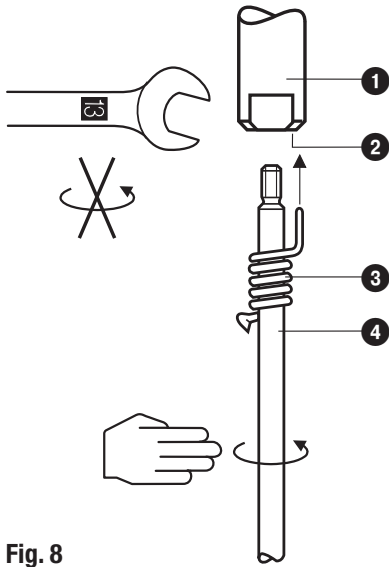

Fig. 8
1. Screw electrode tip ④ into measuring electrode ①. **Fig. 8**
3. Mark length of electrode tip ④.
4. Unscrew electrode tip ④ from measuring electrode ① and cut tip.
5. After visual inspection screw electrode tip ④ into measuring electrode ①. Slide spring ③ along electrode tip ④ so that its end completely enters the small hole ②.